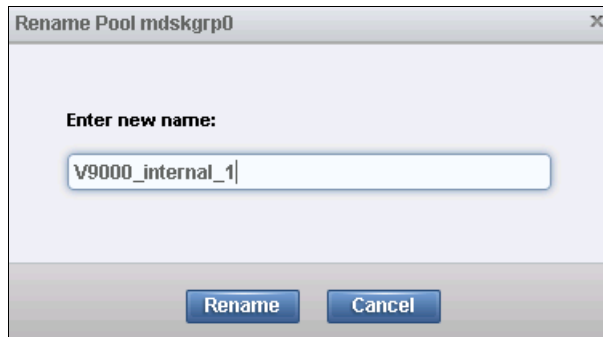

Figure 8-75 Changing the name for a storage pool
2. Enter the new name that you want to assign to the storage pool and click **Rename** (Figure 8-75). A good practice is to name the pools so that the source of the pool is reflected in the name. This example uses V9000\_internal\_1 because the storage pool exists on the IBM FlashSystem V9000 internal drives in enclosure 1.